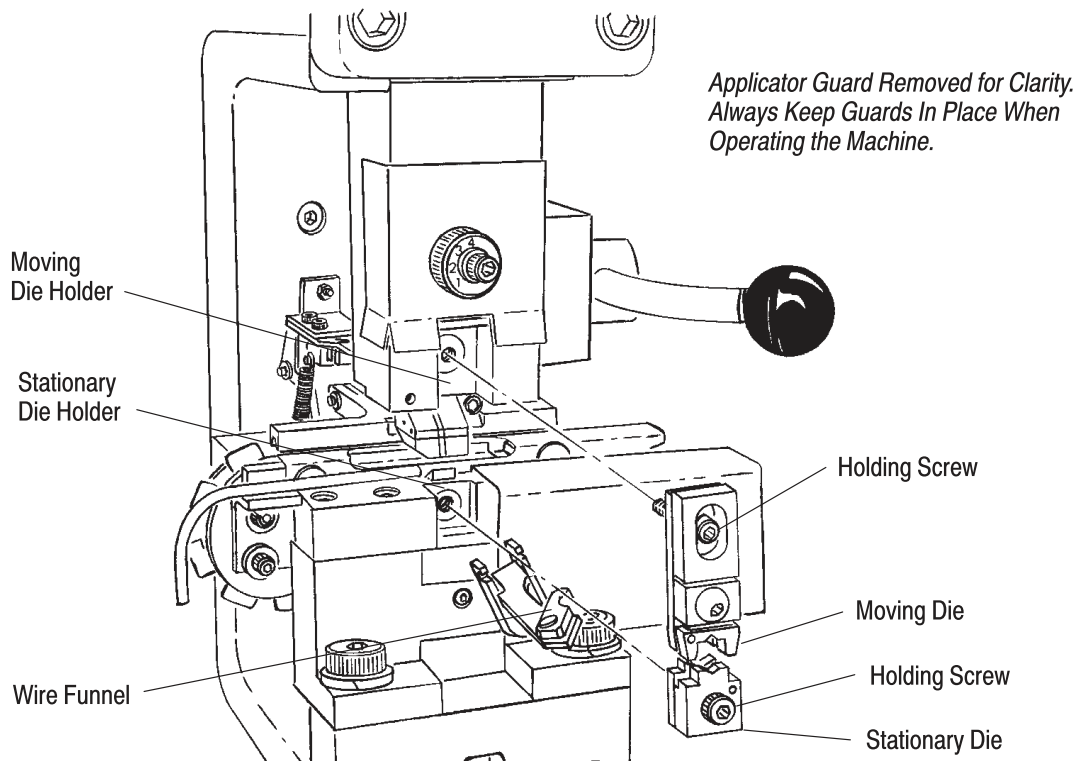

Figure 22
A. Removal (Figure 22)**DANGER**
B. Installation (Figure 22)**DANGER**